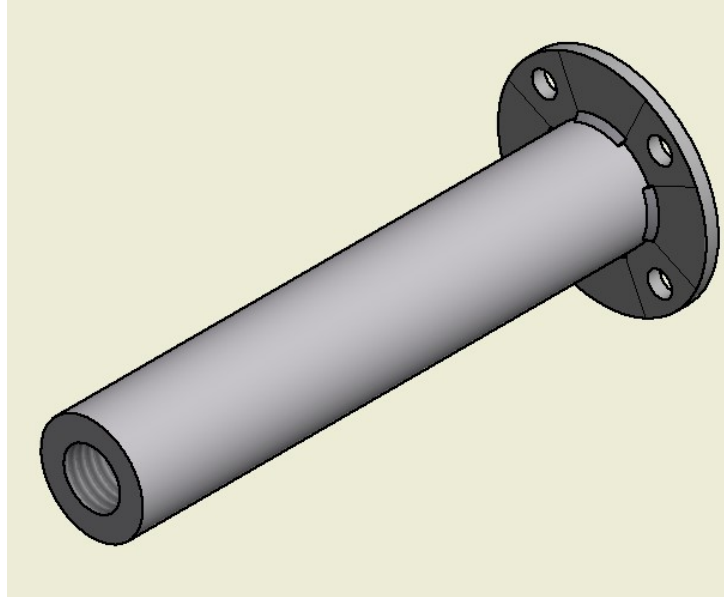

Figure 46: Seal Removal Tool
- The tool in Fig. 46 can be used to help remove the seals from the leg.